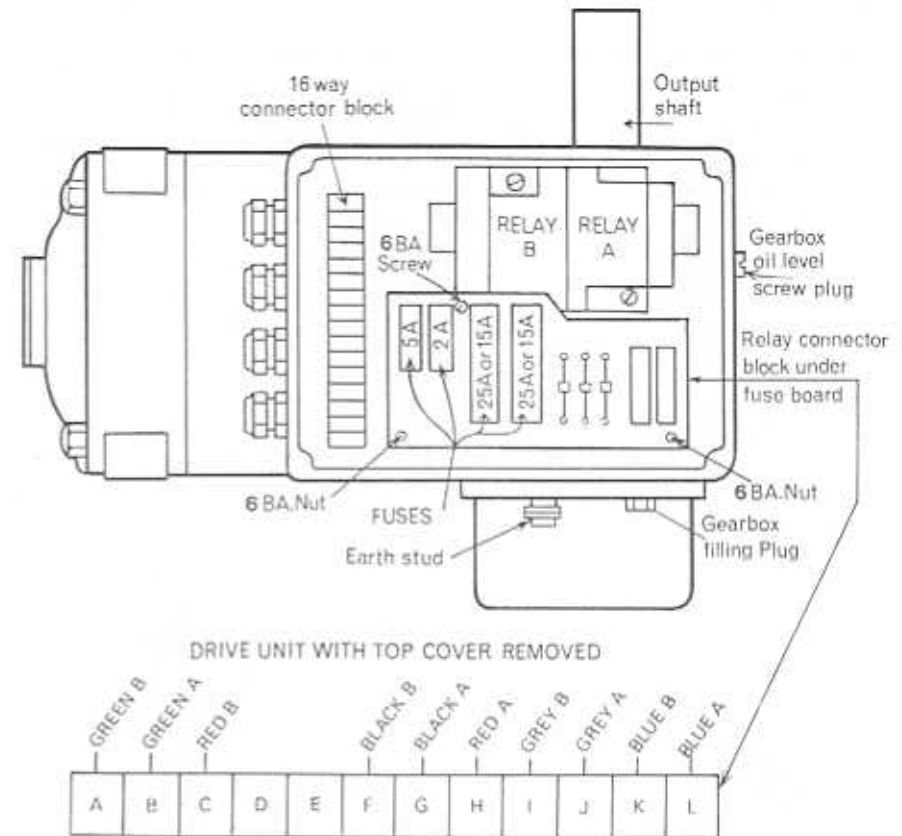

FIG.13 RELAY CONNECTOR BLOCK
- 5.1 **FUSES**, situated under the top cover of the Drive Unit and from (see Fig. 13.) the 16 way terminal block are:
- 5.3 **REPLACEMENT OF RELAYS**. (Potter and Brumfield Type PR5DY). It is important that the Drive Unit and Control Unit Isolators are switched OFF, or alternatively the battery connections are disconnected. Access to the Relays may be gained by removing the top cover from the Drive Unit. See Figure 13. The relays are each secured to the base plate by means of 2 – 4 BA screws and washers. The relay connections are made to a terminal block located beneath the fuse and suppression panel. The latter held by 2 – 2 BA nuts and washers and 1 – 6 BA screw and washer in the positions shown in Figure 13, and removal will allow the fuse board to be hinged aside on its wiring in a direction towards the 16 way connector block. Note the position of the wiring where it emerges from beneath the relay base. Disconnect the relays and remove, taking care not to strain the small leaf springs in the connector block when disconnecting.
The new relays should be screwed into position with the wiring in the position noted for the originals, and care should be taken that all wires are free to move and not trapped. Ensure that the loop of insulated wire connected to the armature of the relay is clear of obstruction and free to move. Connect the relays to the terminal block as shown in Figure 13 coiling excess wire neatly, and refit the fuse board. During the latter operation it is especially important to ensure that the wiring connections beneath the fuse board are not trapped between it and the terminal block, to avoid possible puncture of the insulations by the terminal pins in the board.